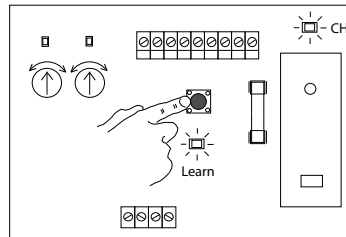

Fig. 4.8.3
Press pushbutton 4 times (within 3 seconds total time) to switch remote channel. Switch is confirmed by green LED (CH). See fig. 4.8.3.